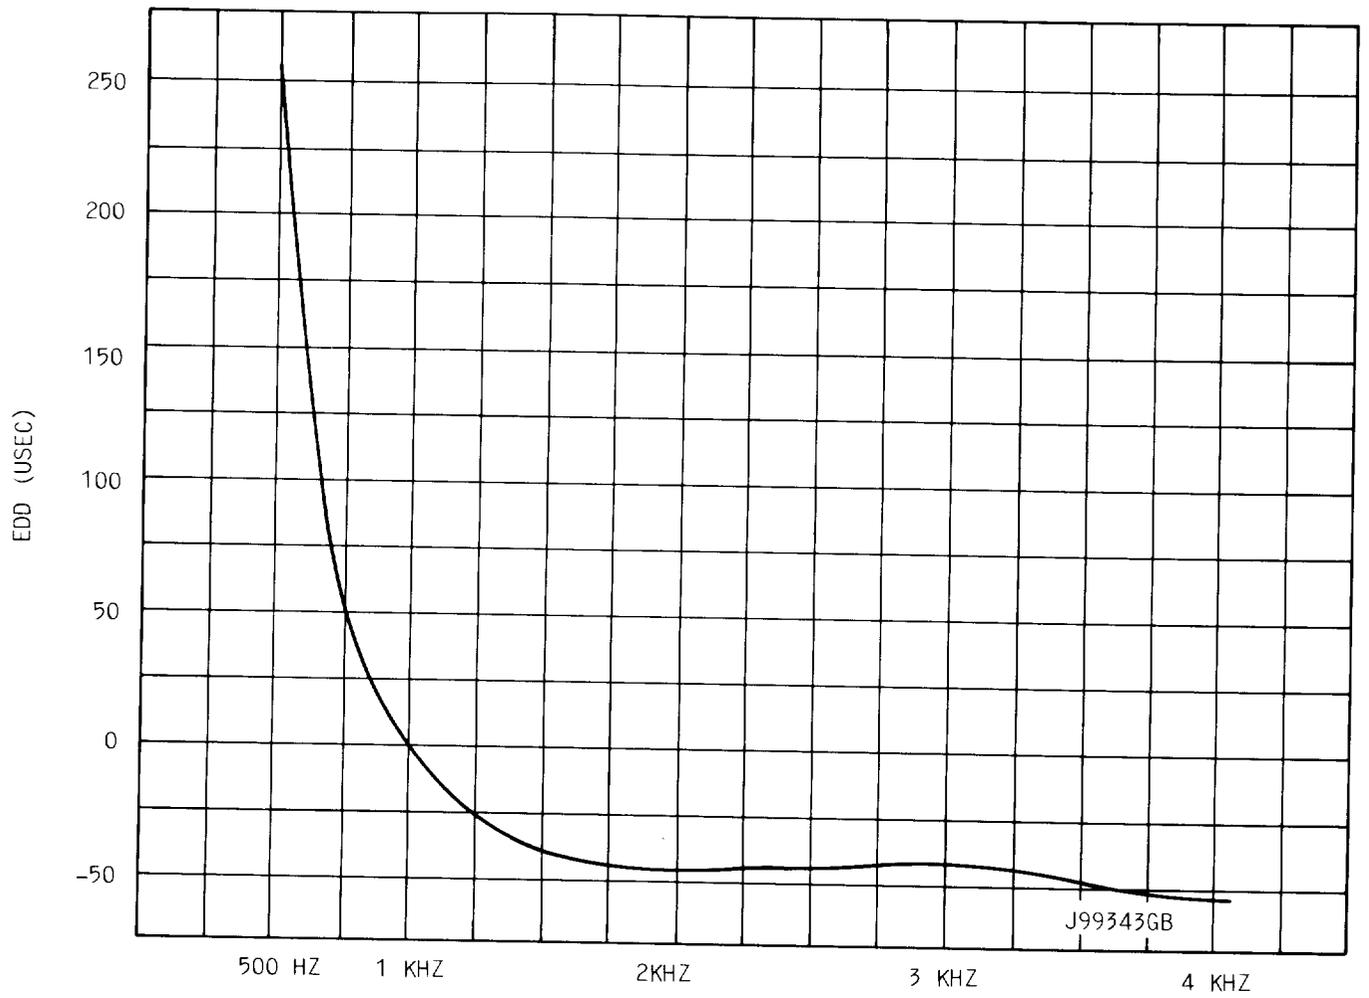

Fig. 4—J99343GB Envelope Delay Distortion
3.03 Figure 4 gives the envelope delay distortion for the repeater.